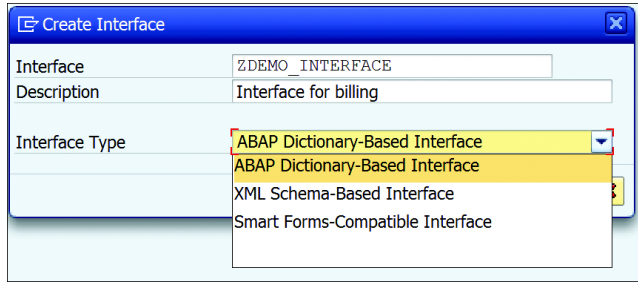

Figure 18.64 Create Interface Window
3. You'll see the **CREATE INTERFACE** window, as shown in Figure 18.64. In this window, provide a short description and select the **INTERFACE TYPE**.